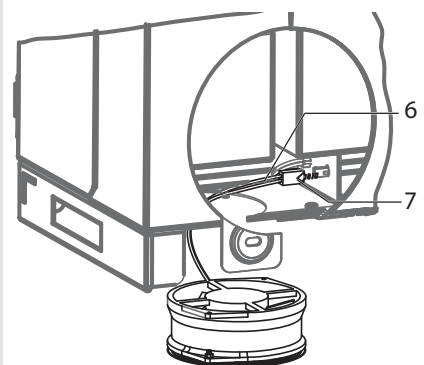

Figure 47: Unplug the fan plug
4. Carefully disconnect the plug connector for the dismantled fan from inside the housing (see Figure 47).